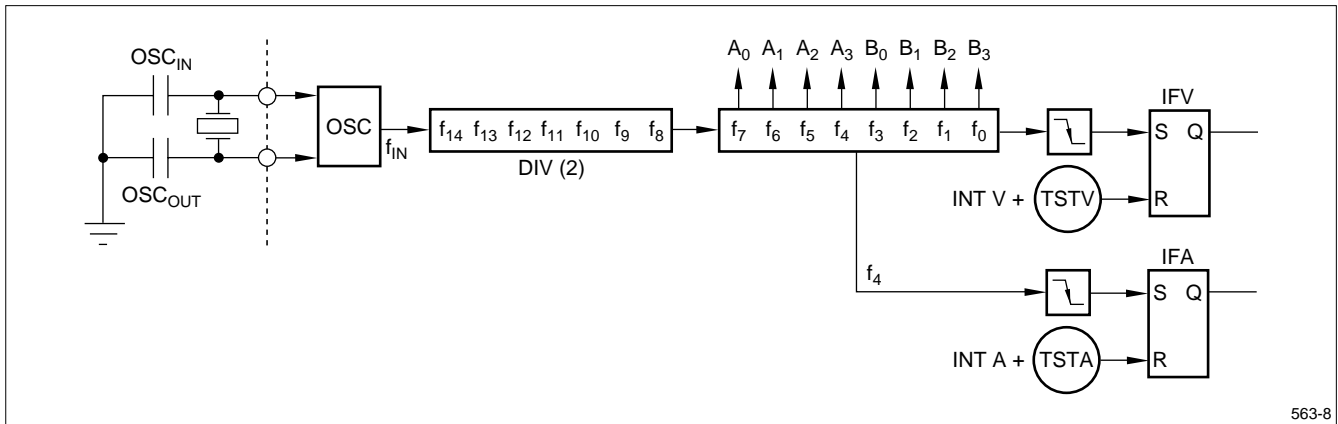

Figure 7. Real-Time Clock Divider
flows, the timer interrupt request flag IFT is set, and the contents of the modulo register (TM) are loaded into the count register (see Figure 7).